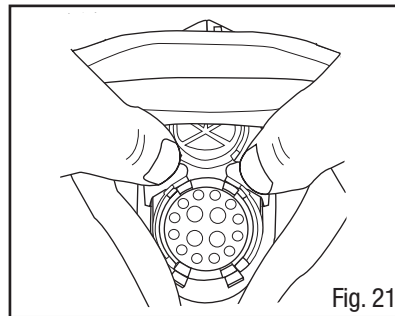

Fig. 21
2. To replace, position nose cup assembly onto lens assembly by aligning hard plastic ring on nose cup with lens assembly and pressing firmly on center tabs until bottom nose cup tabs snap in place (Fig. 21).
9. Replace nose cup assembly (Fig. 21).
6. Replace nose cup assembly (Fig. 21).
13. Replace nose cup assembly (Fig. 21).